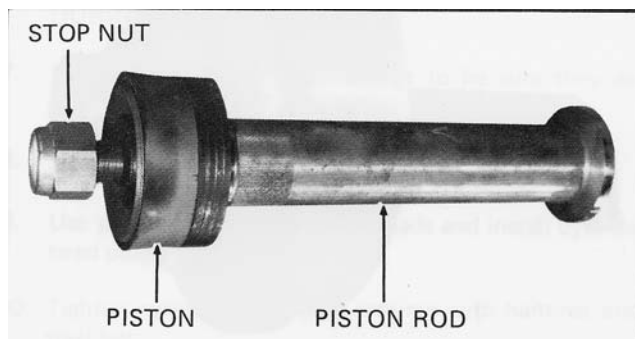

Figure 4-14 Piston, Piston Rod, and Stop Nut
6. Remove stop nut and piston from piston rod (Figure 4-14).